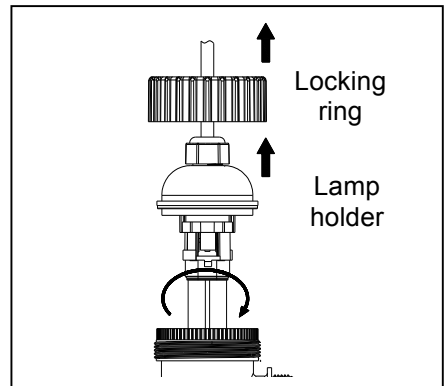

Fig. 14
2. Rotate the locking ring counterclockwise to remove the lamp holder. Fig. 14